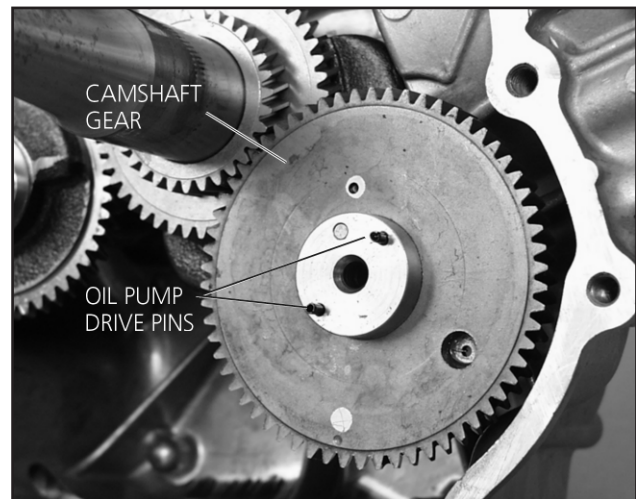

Figure 12.10 — Location of Oil Pump Drive Pins
11. Install the oil pump outer rotor onto the two drive pins at the of the camshaft (see Figure 12.10).